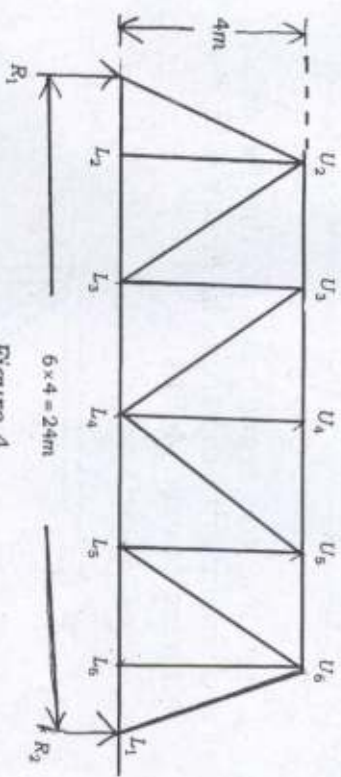

Figure 4
3. Draw ILD for the forces in the members of the bridge truss as shown in the Figure 4. 20